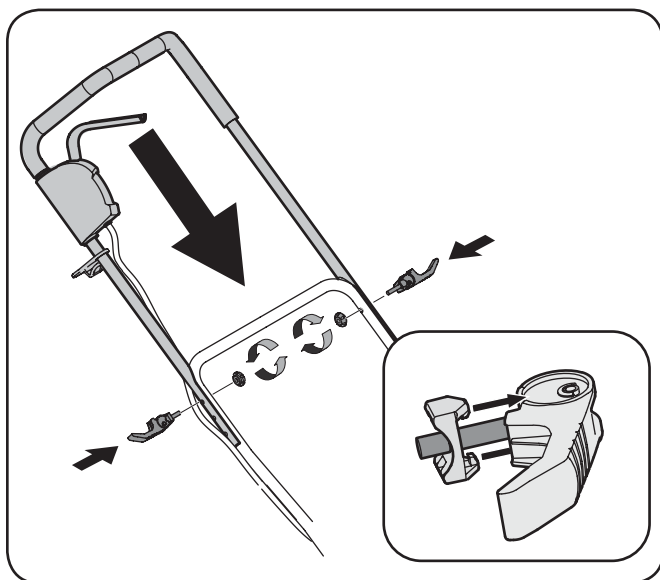

Figure 3-4
- Place the upper handle onto the lower handle, keeping the motor cord over the handles. See Fig. 3-4.
**NOTE:** Make certain the clips on the clamp retainers are inside the grooves of the clamp seats. See Fig. 3-4 inset.
- Insert toggle clamps packed separately with the mower into the holes for the selected height. See Fig. 3-4.